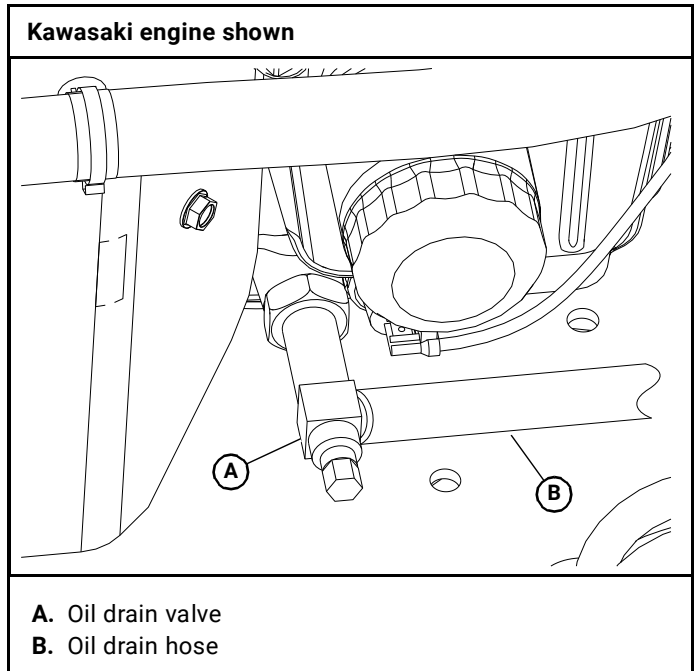
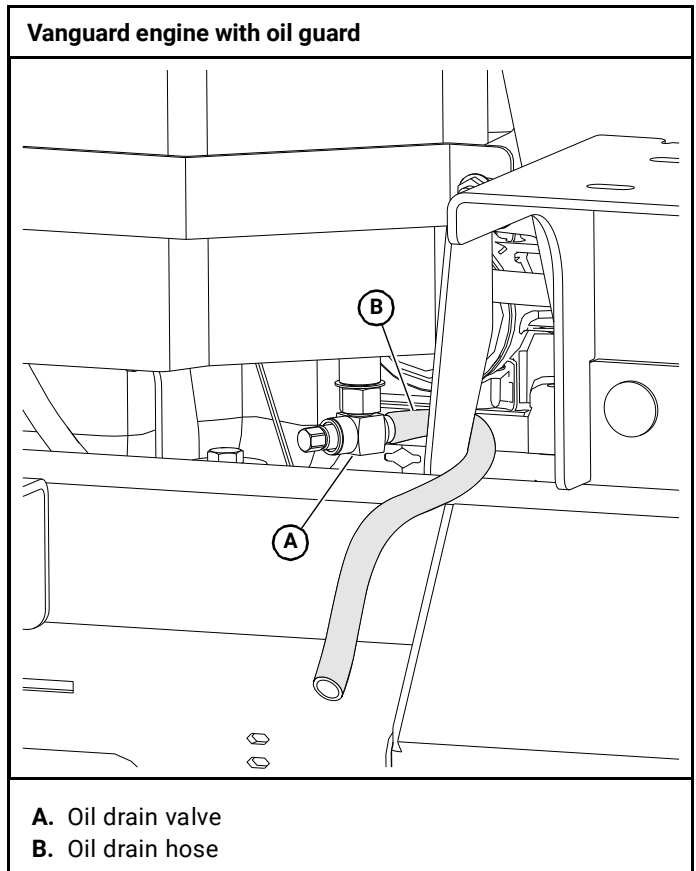

Figure 4-14
Figure 4-15
3. Attach one end of the hose onto the oil drain valve nipple. Make sure the hose is pushed all the way onto the valve. Figure 4-14 & Figure 4-15